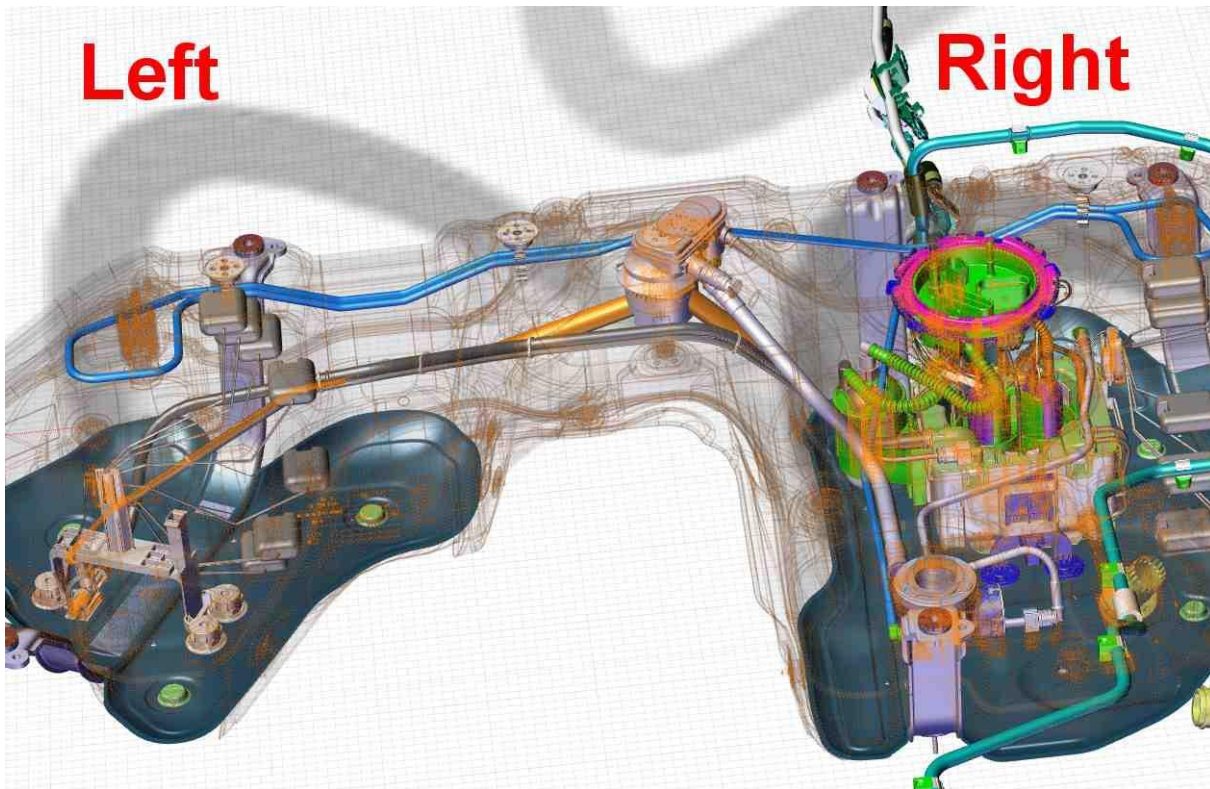

Figure 4
3) Should the pressure drop below 300 kPa after 10 minutes - Referring to Figure 4 - Gain access to the fuel pump assembly and fuel filter within the right hand side of the fuel tank - Rep.Gr 20